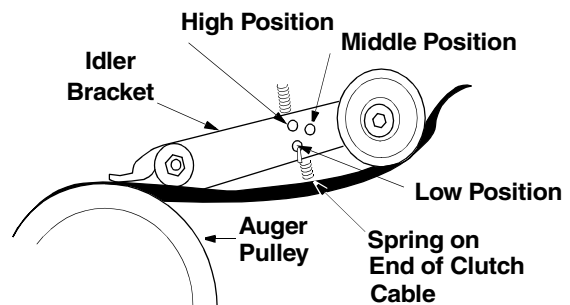

Figure 11
- There are three adjustment holes provided in the idler bracket assembly. See Figure 11. To adjust, move the extension spring on the end of the clutch cable to the next higher adjustment position on the idler bracket assembly. Reassemble belt cover.